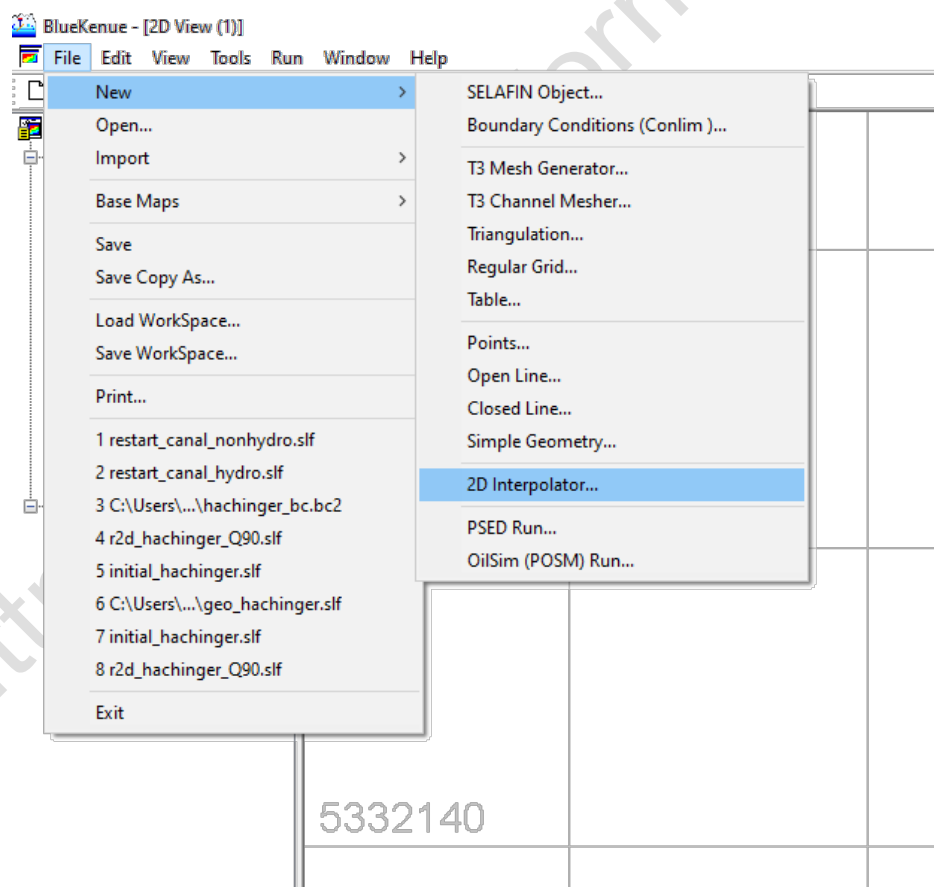

Figure 15: Open a new 2D Interpolator.
2. Open a new 2D Interpolator as shown in Figure 15.